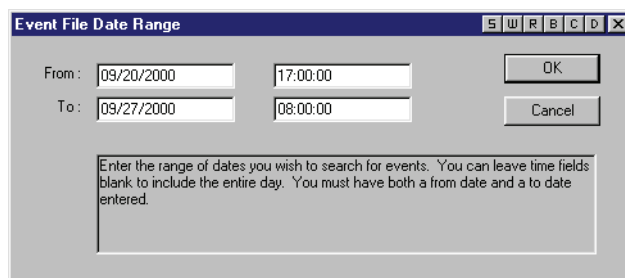

Figure 7-2: Event File Date Range Window
2. Click on the name of the report you want to see. For this example, click on the **Time In Building: Summary** report. Since this is an event report, the Event File Date Range window will appear (see Figure 7-2). If you select a system parameters report, skip to step 7.
4. In the From field, enter the beginning date and time for reporting events. If the time field is left at the default of 00:00:00, the events from the beginning of the day (Midnight) are reported. For example, to report on events beginning on September 20, 2000 at 17:00 hours, double-click in the From date field and type **09/20/2000**. Double-click in the From time field and type **17:00:00** (see Figure 7-2).
5. In the To field, enter the ending date and time for reporting events. If the time field is left at the default of 23:59:59, the events from the entire day are reported. For example, to report on events ending on September 27, 2000 at 08:00 hours, double-click in the To date field and type **09/27/2000**. Double-click in the To time field and type **08:00:00** (see Figure 7-2 on page 3 of this section). Click on the button.
6. If there is no data that meets the date range you have entered, an empty report warning window appears (see Figure 7-3). Click on the button and modify the date selection in the Event File Date Range window (see Figure 7-2 on page 3 of this section).